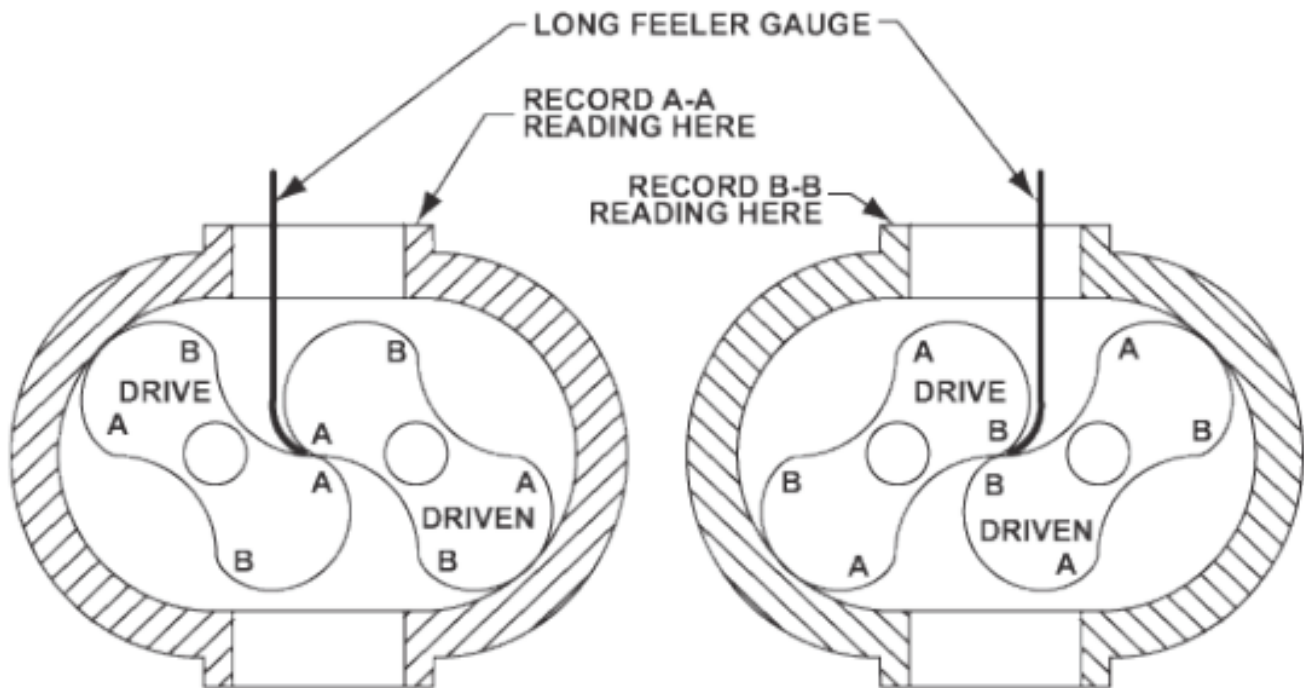

FIGURE 12
16. Check clearance between the face of the end plate and the rotor lobes. See Figure 12 for correct gear and clearances. If clearances are not within specifications, recheck the parts to find and correct the cause of improper clearances before proceeding.
32. Lay the air power unit down with the drive gear on the left. Using feeler gauges, take interlobe readings and record on each side of housing as indicated in Figure 12. By removing or adding shim behind the helical gear, it rotates as it is moved in or out and the driven rotor turns with it, thus changing the clearance between rotor lobes. Changing the shim thickness 0.006 in. (0.16 mm) will change the rotor lobe clearance one-half the amount: 0.003 in. (0.08 mm).
**EXAMPLE:** See Figure 12, check the clearance at AA (left-hand reading) and BB (right-hand reading). If AA reading is 0.003 in. (0.08 mm) and BB reading is 0.009 in. (0.24 mm), by removing 0.006 in. (0.16 mm) of shim, the readings will change one-half the amount removed or 0.003 in. (0.08 mm). AA should then read 0.006 in. (0.16 mm) and BB should read 0.006 in. (0.16 mm). The final readings should be within 0.002 in. (0.05 mm) of each other.